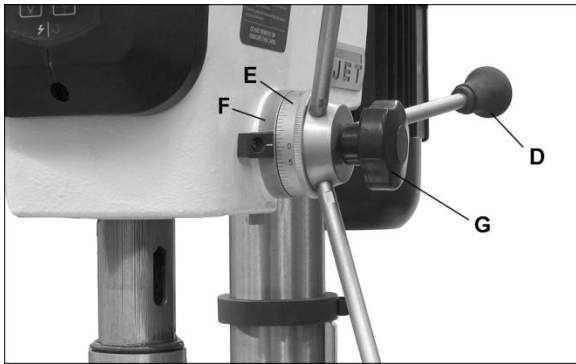

Figure 23
2. Use downfeed handle (D, Figure 23) to lower the bit to the mark. Hold downfeed handle in position.
3. Rotate lock ring (F) *counterclockwise* as far as it will turn. You should be able to feel and hear when the lock ring reaches the end of its rotation.
4. Tighten lock handle (G).
6. To release the depth stop, loosen lock handle (G).